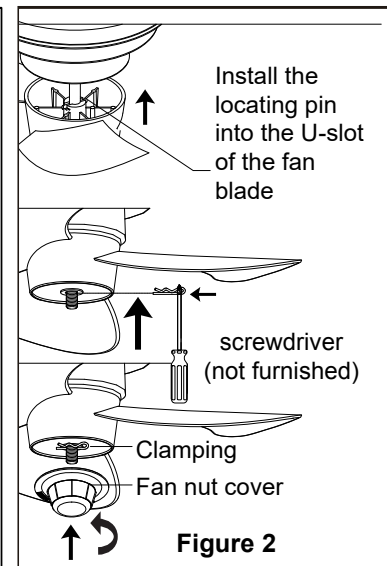

Figure 2
Align the U-slot of the fan blade with the locating pin of the motor rotating shaft. The pin should sink into the U-slot of the fan, then insert the hairpin into the side hole of the motor rotating shaft and clamp it on the motor rotating shaft. Finally, screw the fan nut cover into the middle shaft of the motor and tighten it counterclockwise to fix the fan blade. (Figure 2)
- ☐ **2.** Restore electrical power to the outlet box by turning the electricity on at the main fuse box. (Figure 2)